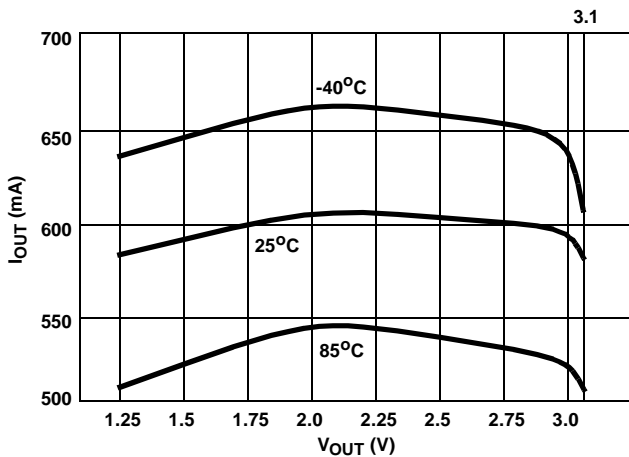

FIGURE 4. CURRENT REGULATION vs V_{OUT} (V_{IN} = 3.3V)
The ISL6118 has integrated current sensing on the power MOSFETs that allows for rapid control of OC events. Once an OC condition is detected the ISL6118 goes into its current regulation (CR) control mode. The ISL6118 CR level is set to a nominal 0.6A and is regulated to within +/-25% over full temperature, bias voltage range and OC magnitude. The speed of this control is proportional to the level of OC. Thus a hard OC is more quickly controlled than a marginal condition. See Figures 4 through 7 for current regulation performance curves and waveforms.